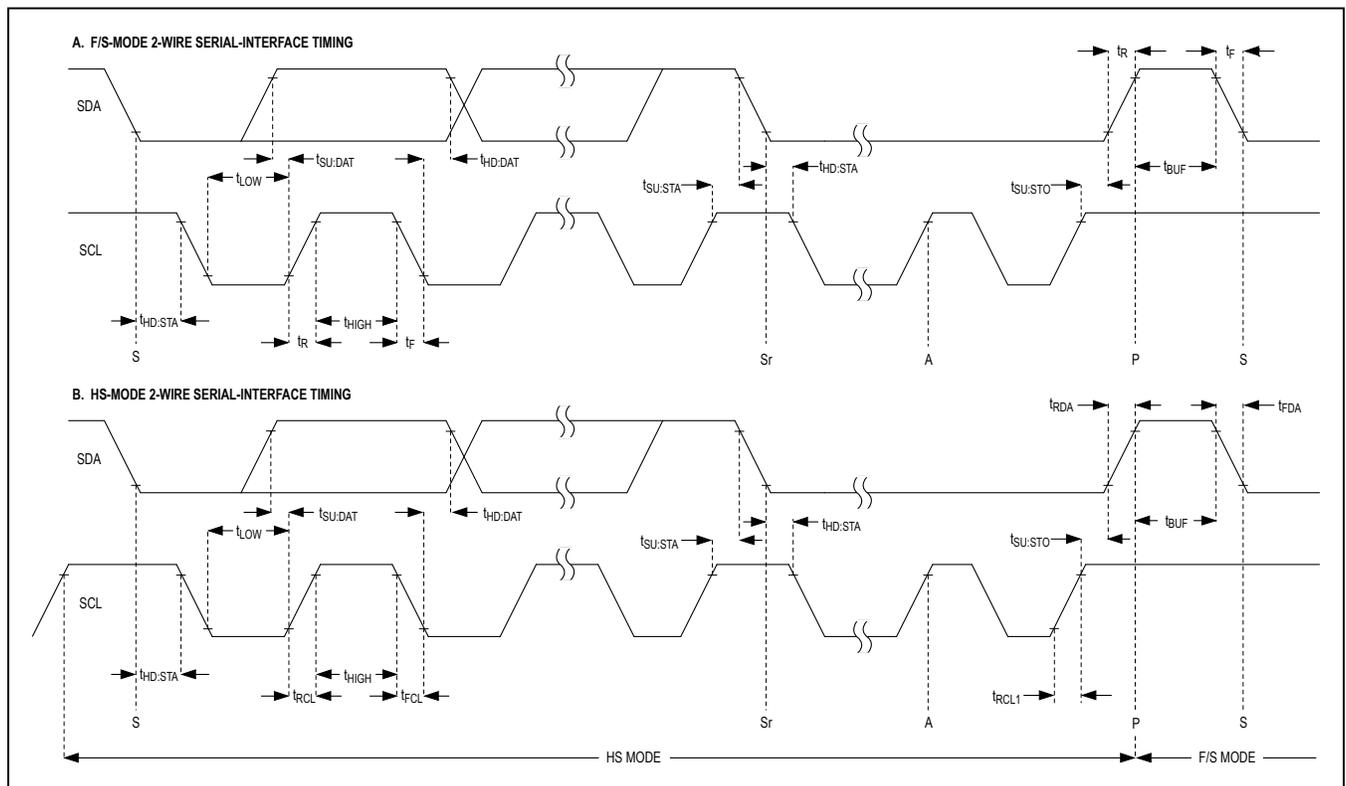

Figure 1. 2-Wire Serial-Interface Timing
**Timing Characteristics (Figure 1)**
**Timing Characteristics (Figure 1) (continued)**
- Note 11:** A master device must provide a data hold time for SDA (referred to VIL of SCL) to bridge the undefined region of SCL’s falling edge (see Figure 1).
up to 94.4ksps. Figure 1 shows the bus timing for the MAX11606–MAX11611’s 2-wire interface.